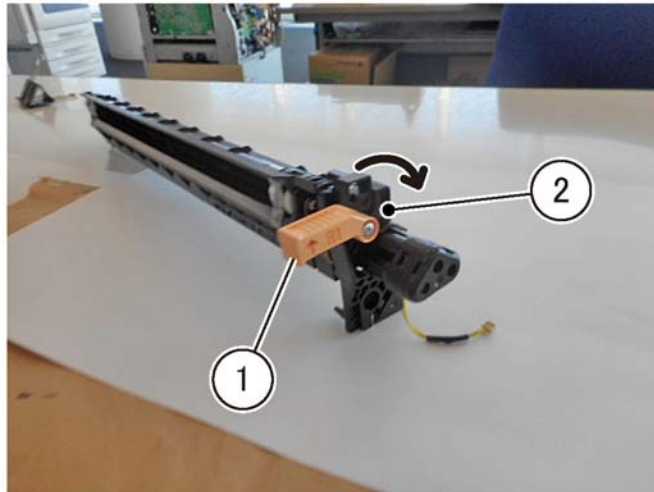

Figure 1 Developer front cover removal
2. Remove the developer front cover, Figure 1.
- a. Lower the lever (1).
- b. Remove the developer front cover (2) in the direction of the arrow.